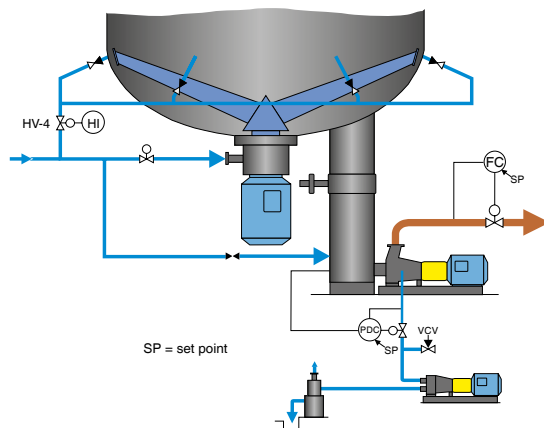

Fig. 16. Control system in MC tower discharge installation.
- The flow controller (FC) controls the flow rate of the MC pump by the valve (Fig. 16), variable speed of the pump, or by a combination of these methods.
Gas/air is removed by having a degassing system in combination with the MC pump (Fig. 16 and 17). Stock can be diluted to the process consistency with the tower bottom water connections, with a diluting MC discharge scraper, and also in the MTB feed chute (Fig. 16).